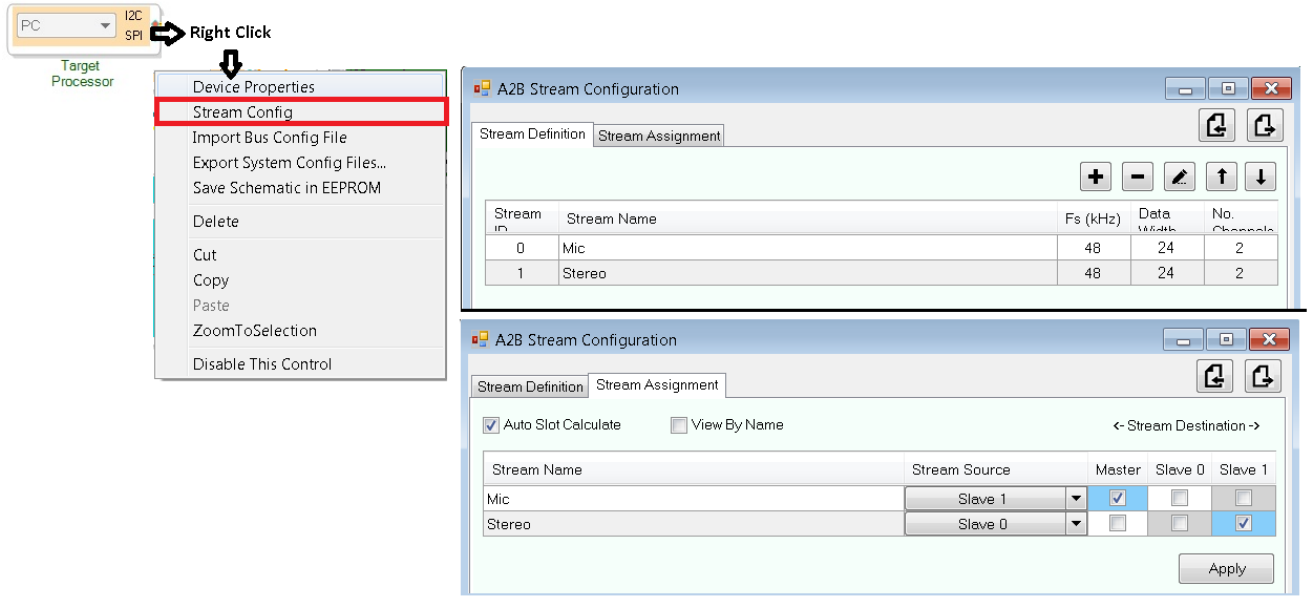

Figure 6: Stream Configuration
- Use the *Stream Config* tab (right-click on Target Processor → Device Properties → Stream Config) to define audio streams across the nodes (Figure 6). The stream assignments configure the upstream and downstream slot settings across the nodes.